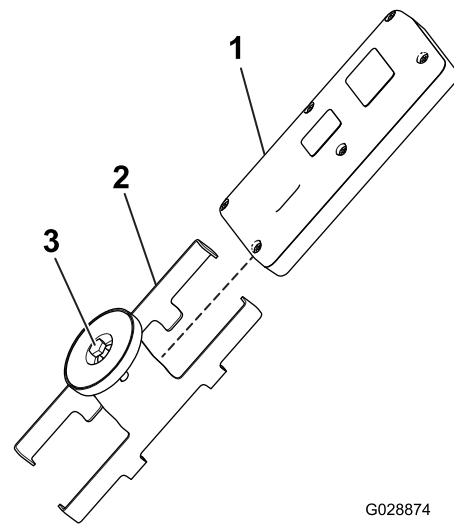

Figure 48
1. Loosen the bolt in the magnet on the magnetic remote bracket (Figure 48).
2. Slide the bracket sides apart and remove the remote (Figure 48).
8. Install the handheld remote into the magnetic remote bracket, slide the halves together to secure the handheld remote, and tighten the bolt in the magnet (Figure 48).